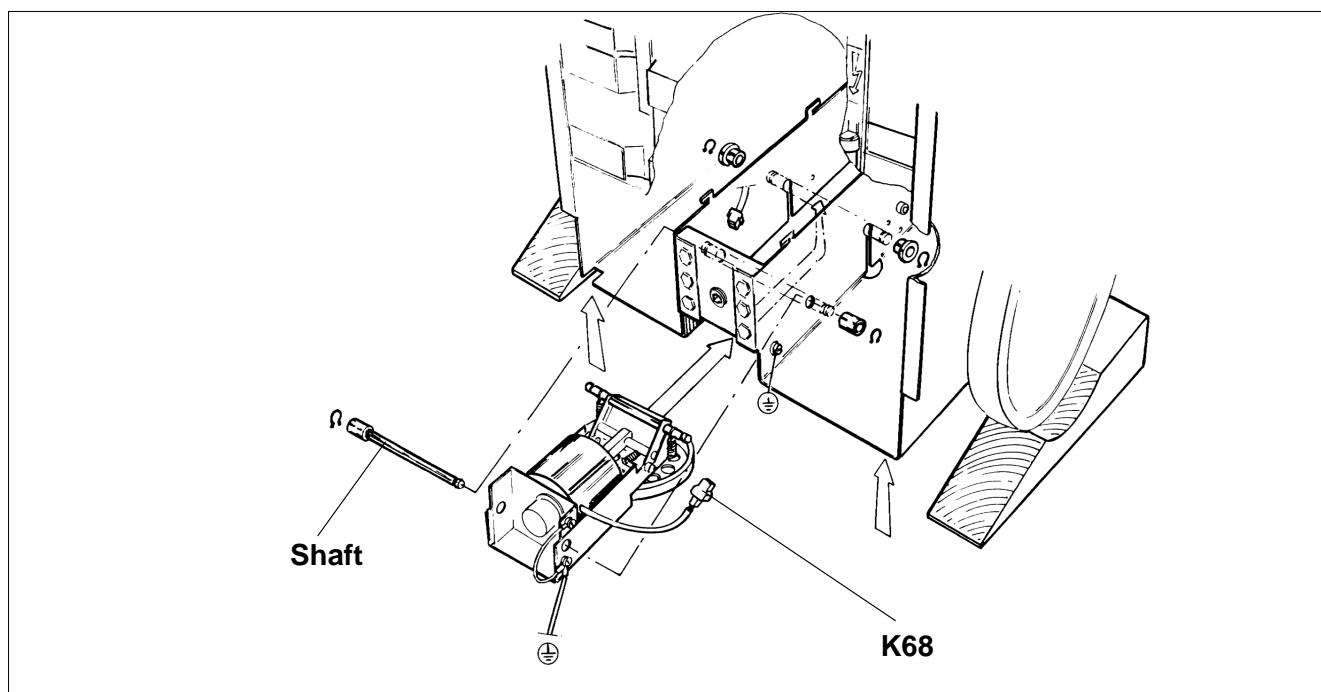

Fig. 12
- Disconnect all cables, ground connections and K68, according to (Fig. 12).